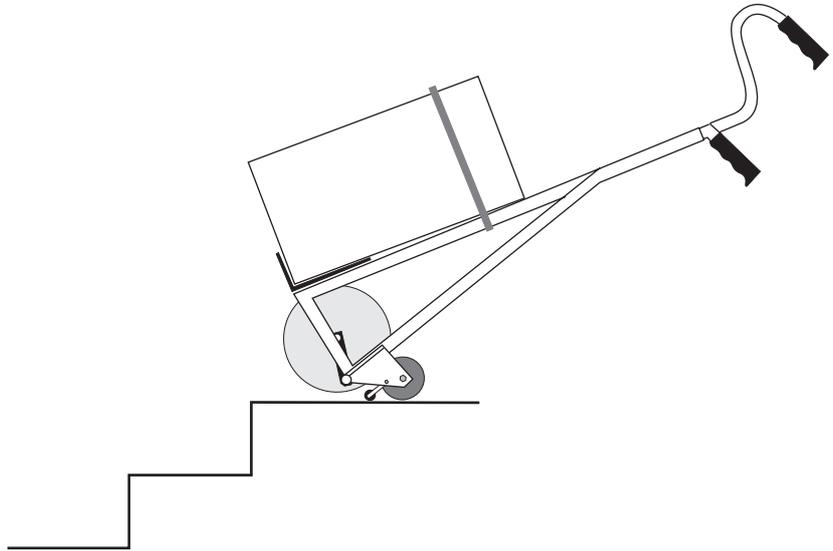

FIGURE 34
1. Bring the big wheels in the position as shown in Figure 34 and rest the **CargoMaster** on its small supporting wheels by pushing the handlebars down. Hold the device precisely at such a position that the big wheels do not touch the ground anymore.